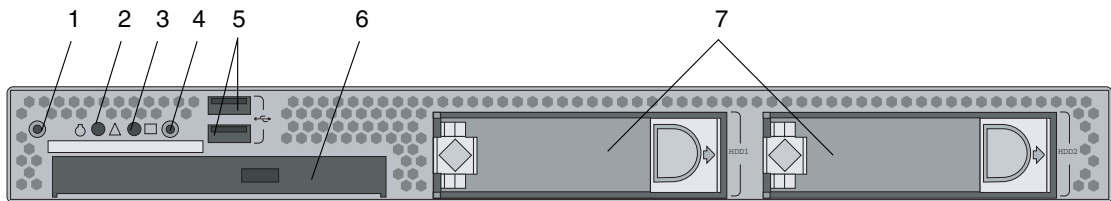

FIGURE 1-16 Front Panel
1. Ensure that a grounded AC power cord is plugged into the AC power connector on the rear of the server and into an AC power outlet. (See FIGURE 1-16.)
2. Press and release the server Power button on the front panel. (See FIGURE 1-16.)
The power-indicator LED lights after the server begins the internal booting process. See FIGURE 1-16 for location of the power-indicator LED.